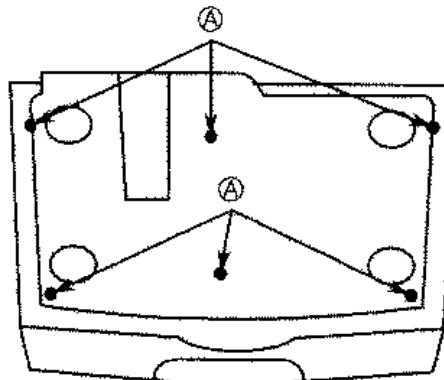

Fig.1 Bottom view
1. Take off 6 screws Ⓐ on the bottom. (See fig.1)